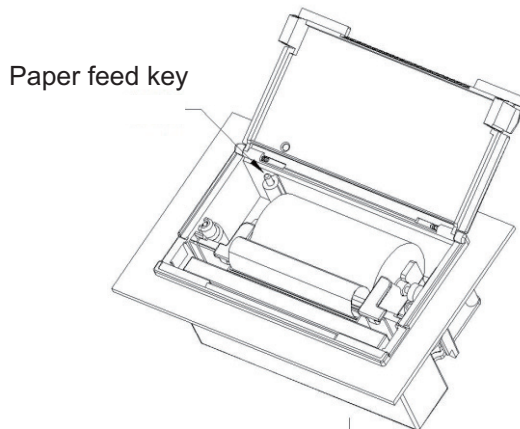

Fig. 2-5
(4) Turn on the power, press the paper feeding key to feed the paper from the paper inlet, and after the paper comes out of the paper outlet, press the paper feeding key again to stop feeding. As shown in Fig. 2-5: